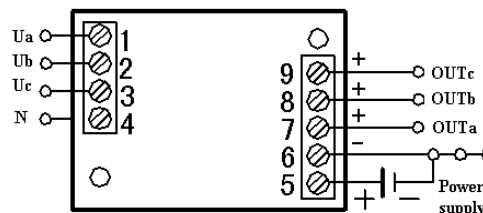

Figure 3 CE-VJ41A DC power supply, AC three-phase three-wire input, voltage or current output wiring diagram
- ① Fix the transducer on the side of the card slot and hook on the mounting rail;
- ② Pull the spring pin down;
- ③ Clip the transducer mount on the mounting rail;
- ④ Release the spring pin and clip the transmitter on the mounting rail.
- ① 3mm diameter hole in the fixed plate according to the screw hole position shown in Fig. 3;
- ② Use the screw $\Phi 3$ to insert into hole and secure it.